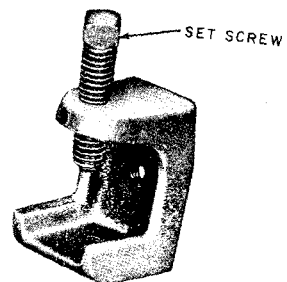

Fig. 15—Insulator Support
3.10 *Insulator Support (Fig. 15)*: Used in conjunction with cable clamps and one-bolt guy clamps for attaching to structural steel members.